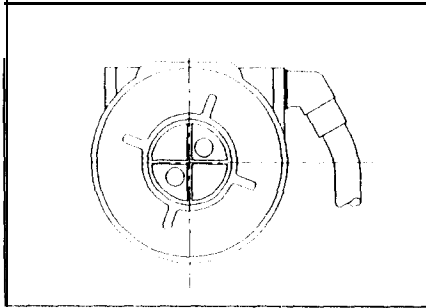

Fig 14
- ◆ Re-check position of diaphragm (Fig.14).
- ◆ Refit bayonet cap • check position of diaphragm (Fig.14).